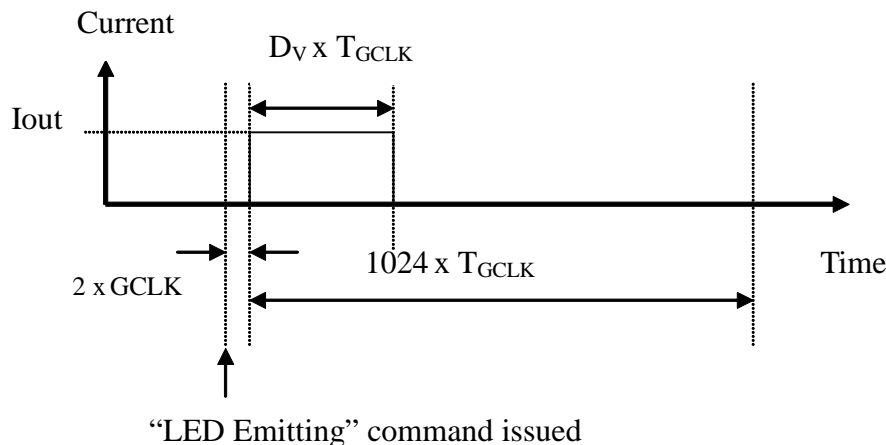

Figure 2. PWM Current Output
- B. There are 2 GCLK latencies between the latched *LED Emitting/Disable* command and PWM start/stop. This is shown in Figure 2.
ST2226B adjusts the LED luminance using PWM (pulse width modulation) technique. The luminance data ( $D_V$ ) has a resolution of 10 bits (1024steps) and can be set independently for each LED. The relationship between  $I_{out}$ , luminance data, and emitting time is shown in Figure 2.